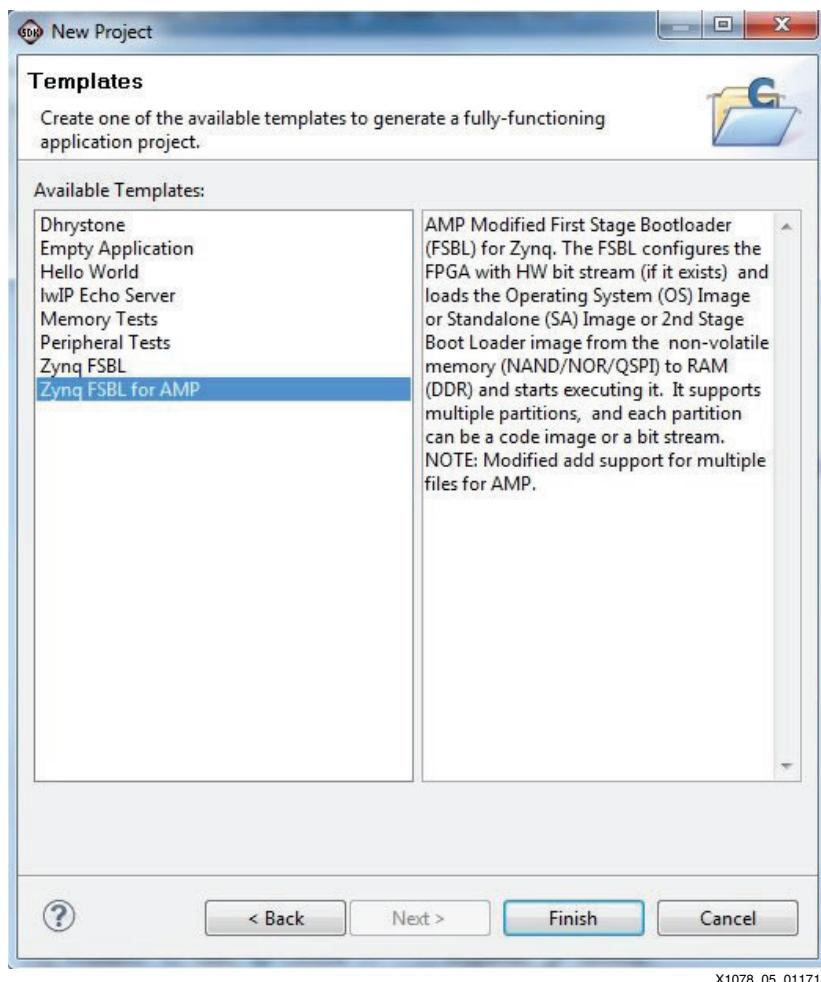

Figure 5: Select Custom FSBL Template
- d. Select the available template Zynq FSBL for AMP. If this template is not available in the list, verify that the repository is set up correctly (Figure 5).